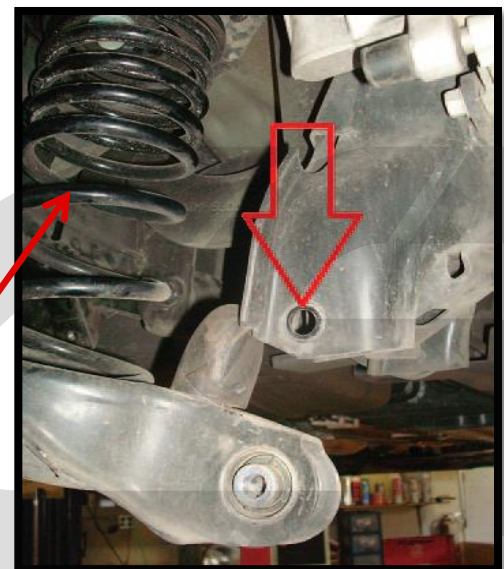

Figure 6e
g) **Free control arm from the spindle** as shown in **Figure 6e**. Slowly lower the jack under the control arm watching for binding.